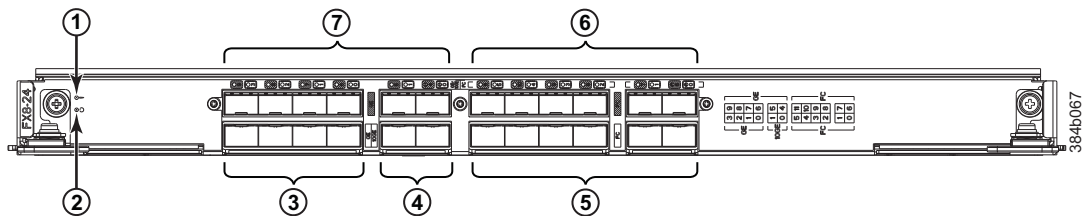

Figure 59. FX8-24 extension blade
- Figure 59 on page 143 shows an FX8-24 extension blade